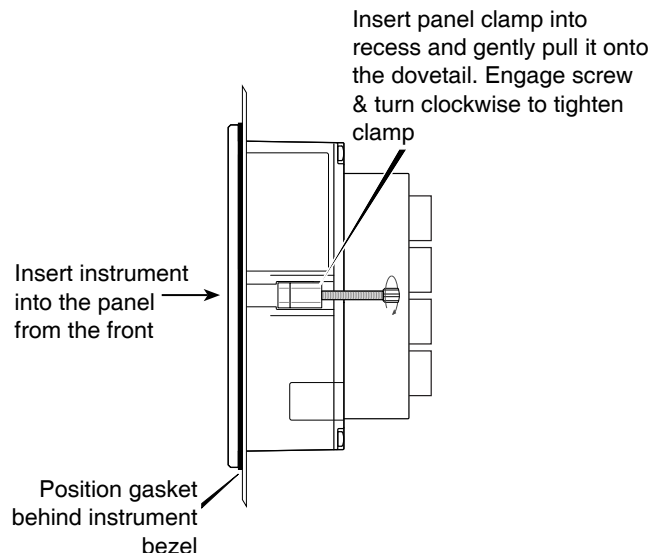

Fig 10 Installation of panel mounting clamps
2. First ensure that all eight panel mounting clamps are closed by turning the knurled screws fully anticlockwise until the two pips in the clamp foot align with holes in the clamp body as shown in Fig 10.
4. Place a clamp in the recess on each side of the Operator Panel, pulling gently to slide it onto the dovetail as shown in Fig 10. Push the knurled screw slightly forward to engage the thread and tighten by turning clockwise until it is just finger tight. When both clamps are fitted ensure that the gasket behind the front panel bezel remains correctly positioned before fitting the remaining panel mounting clamps. Finally, fully tighten all 8 panel clamps to secure the instrument. The maximum recommended clamp tightening torque is 22cNm (1.95 lbf in) which is approximately equivalent to finger-tight plus one half turn. Do not over tighten.